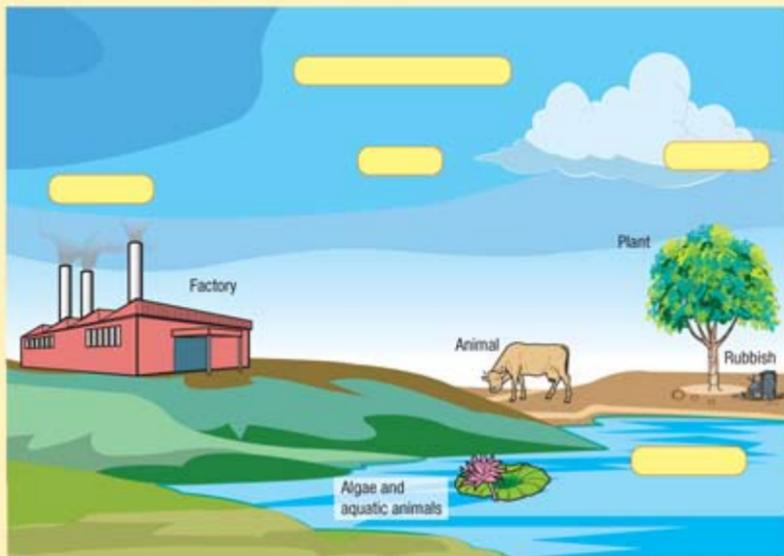

Figure 5.4
1. Complete the carbon cycle diagram in Figure 5.4.